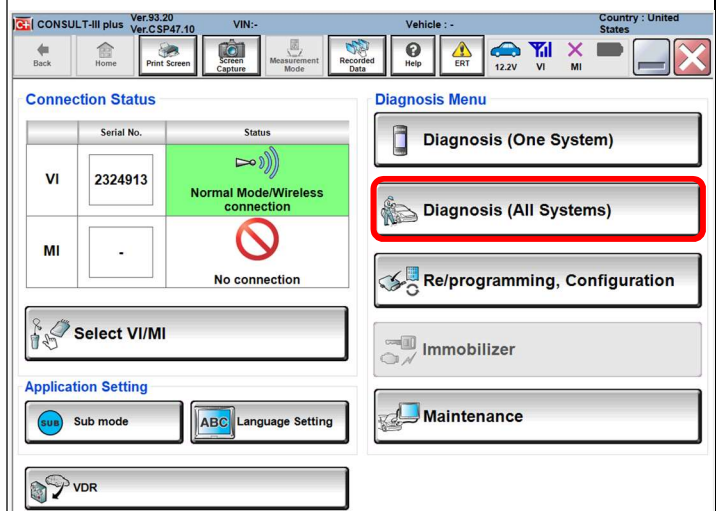

Figure 1
3. Select "Diagnosis (All Systems)". (Figure 1)